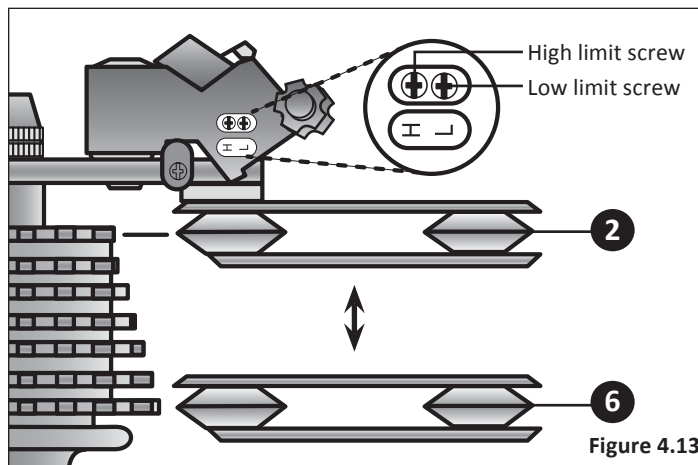

Figure 4.13
- 2** Adjust the high limit screw (H) so the guide pulley and the smallest sprocket are lined up. **Figure 4.13**
- 6** Adjust the low limit screw (L) in quarter turn increments until the guide pulley and the largest cog are aligned vertically.